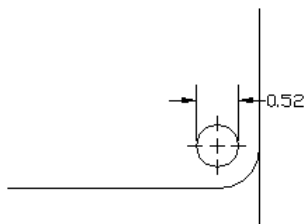

Figure 15-16: A narrow dimension using the Both text and arrows option.
- ♦ **Both Text and Arrows:** Keeps the text and arrows together — between the extension lines if there is enough room, and outside the extension lines if there is not. Figure 15-16 shows a dimension using this option.